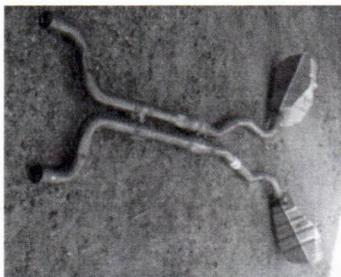

Figure 4
4. The exhaust comes down as one piece from the cat back. We recommend three people remove the stock exhaust, one person at the front the others supporting the muffler to prevent the tips from marking the fascia. With help in place remove the rubber isolators and then slide the entire system rearward to remove it from the sleeve clamps behind the catalytic converters. Once you have lowered the system just below the sleeve clamps you can push the system forward to remove. **Refer to Figure 2 & 3.** Figure 4 shows the exhaust removed.